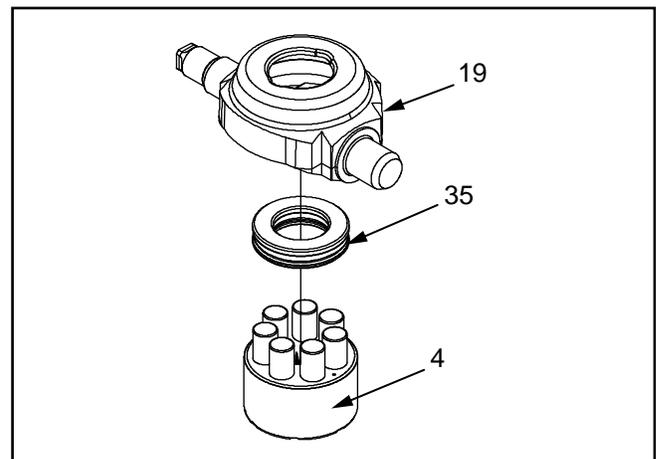

Figure 15.
8. **(See Figure 15)** Disassemble the pump cylinder block (4) from the swashplate (19).
12. (See Figure 15) Place the pump block assembly (4), pistons down, on top of the thrust bearing in the swashplate (19).